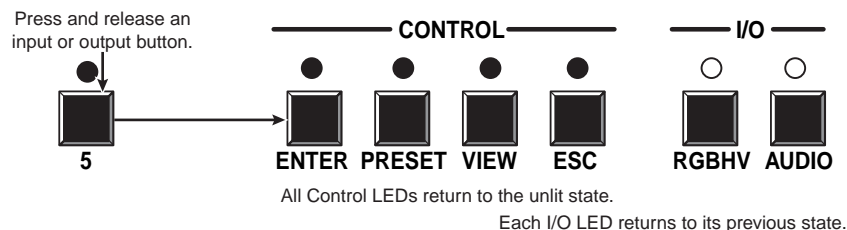

Figure 3-61 — Exit Serial Port Configuration mode
4. Press and release an input or output button to exit the *Serial Port Configuration* mode (figure 3-61).